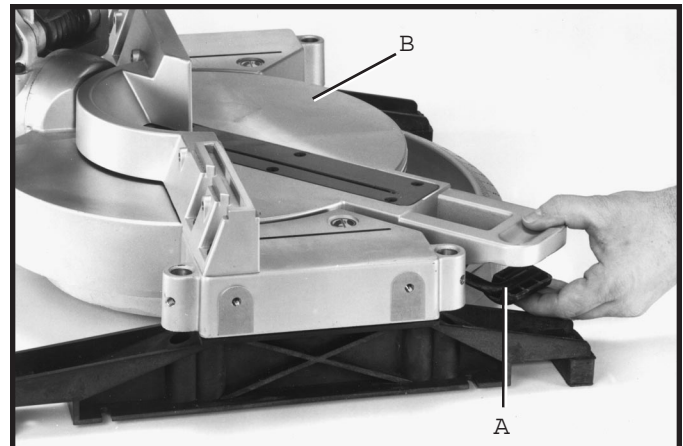

Fig. 6
1 Depress table lock lever (A) Fig. 6, and rotate table (B) to the 90 degree straight cut-off position. Then release lock lever (A).